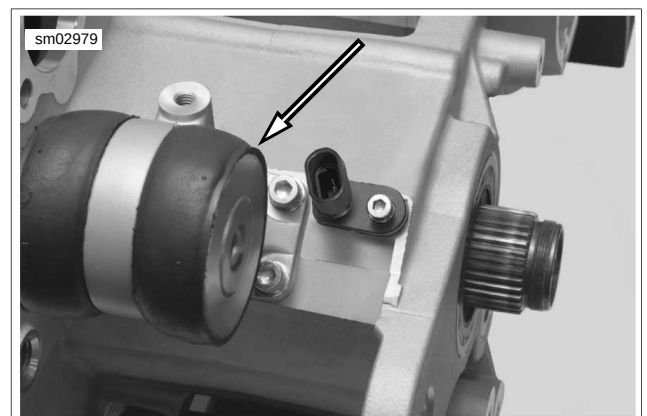

Figure 3-22. Rear Isolator Assembly
41. See Figure 3-22. If the crankcases are being separated it will be necessary to remove rear isolator assembly by removing the forward two fasteners first and then the two rear fasteners (re-install with **new** fasteners).